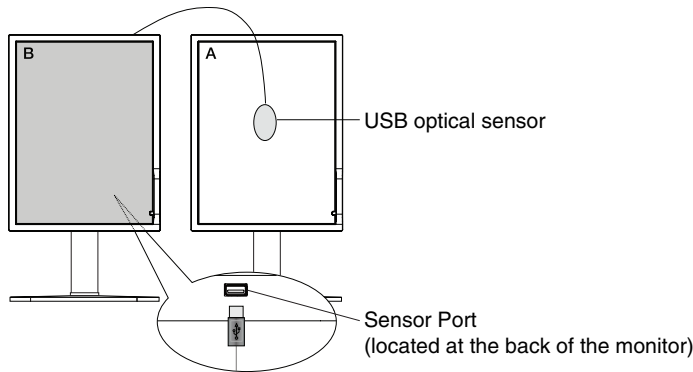

Figure C.1
- To show the CALIBRATION menu, plug-in the USB optical sensor to the sensor port (Figure C.1) or select the STAND ALONE CALIBRATION in the advanced menu (page 20).
- The procedure will ask for the USB optical sensor to be placed on the center of the display panel (Figure C.4). Tilt the display panel approximately 5° backward and place the USB optical sensor in the center of the display panel (Figure C.1).